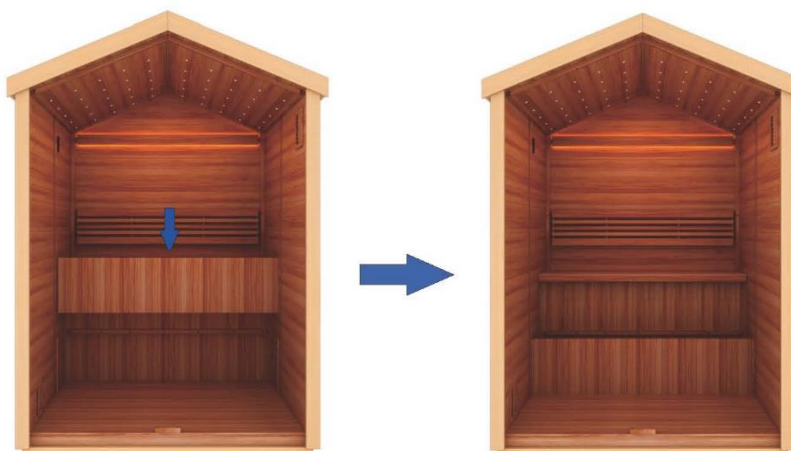
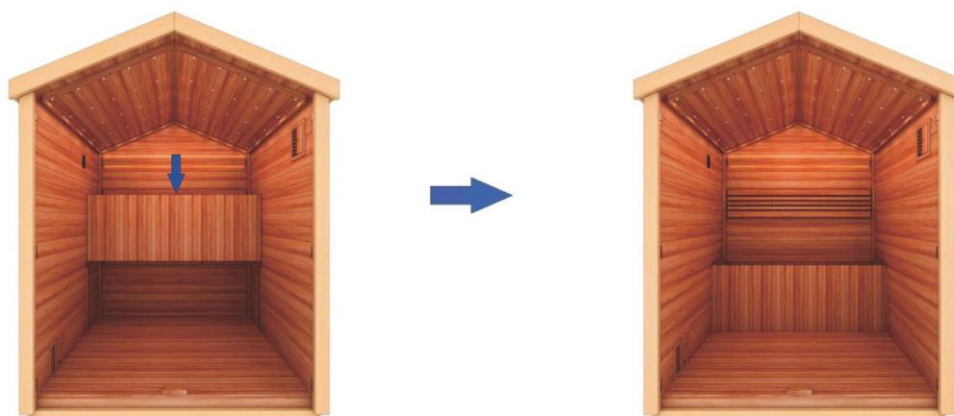

Figure 7
Figure 7a
1. First, be sure to run the power cord for the lights through the hole in the wall underneath the Circuit Connection Junction box. For GDI-8506-01, locate the larger of the two BENCH SUPPORTS. This will be the upper BENCH SUPPORT. The upper BENCH SUPPORT (the larger of the two BENCH SUPPORTS) will need to be installed at an angle. See figure 7. Make sure to feed the power cable underneath the BENCH SUPPORT and that the BENCH SUPPORT slides all the way down. For both models, you can locate and install the lower BENCH SUPPORT. It will need to be installed at an angle as seen in figure 7a. Proceed to make the heater cord connections that will be hidden once the BENCH is installed. For GDI-8506-01, the lower BENCH SUPPORT heater cord can be feed through the upper BENCH SUPPORT in order to connect it to it applicable counterpart.